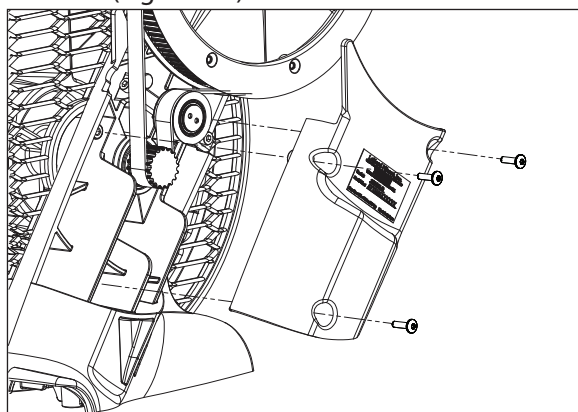

FIGURE 4.1
1. Remove the body side cover by removing the three screws. (Figure 4.1)